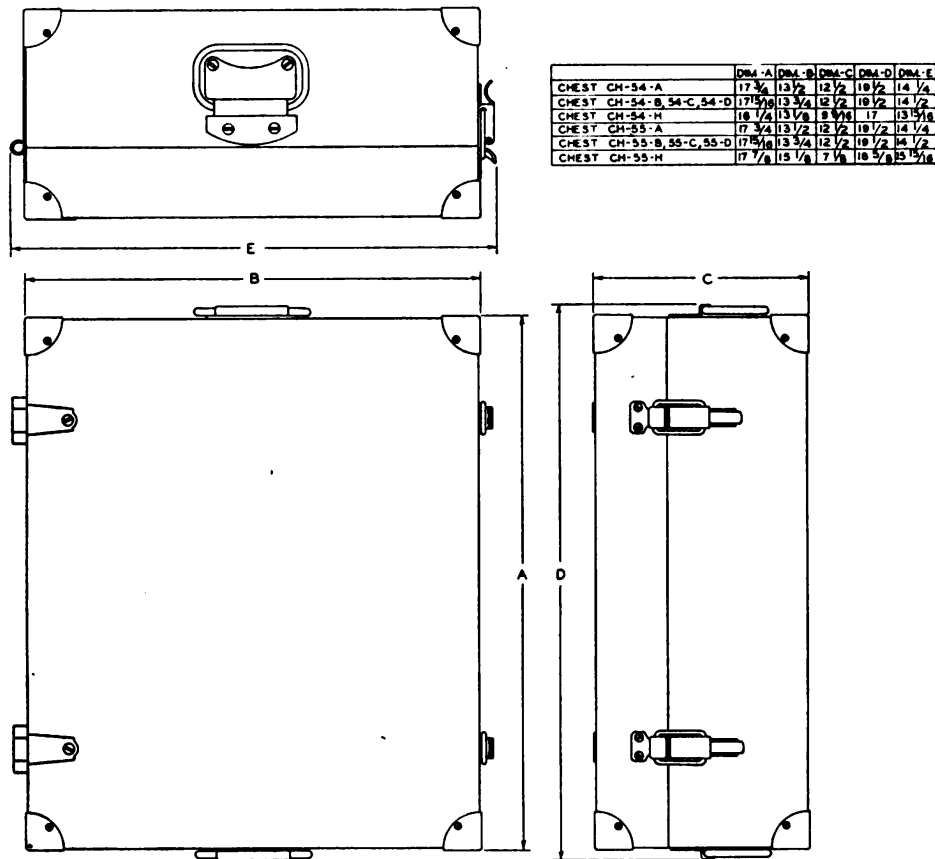

Fig. 2—Chests CH-54(\*) and CH-55(\*)—outline dimensions
b. **Chest CH-54-(\* )** houses Control Unit RM-13-(\* ). It is made of wood and finished in olive drab. Outline dimensions of two types of chests are shown in figure 2. A wooden partition in the chest provides a support for the handset cradle. Pads in the chest and inside the cover hold the unit firmly in place during transportation. The chest is fitted with one or two pull-down catches on the front and a metal carrying handle at each end. A web strap serves as a handle for lifting or lowering the control unit from or into the chest.
c. **Chest CH-55-(\* )** houses the parts required in the operation of Remote Control Equipment RC-47-(\* ). It is made of wood and finished in olive drab. Outline dimensions of the two types of chests are shown in figure 2. One section of the chest is divided into nine compartments for holding six headsets and three telegraph keys. Retaining blocks and cleats provide mounting space for four batteries and two vacuum tubes. The microphone compartment accommodates two microphones. The case is fitted with two pull-down catches on the front and a metal carrying handle at each end.